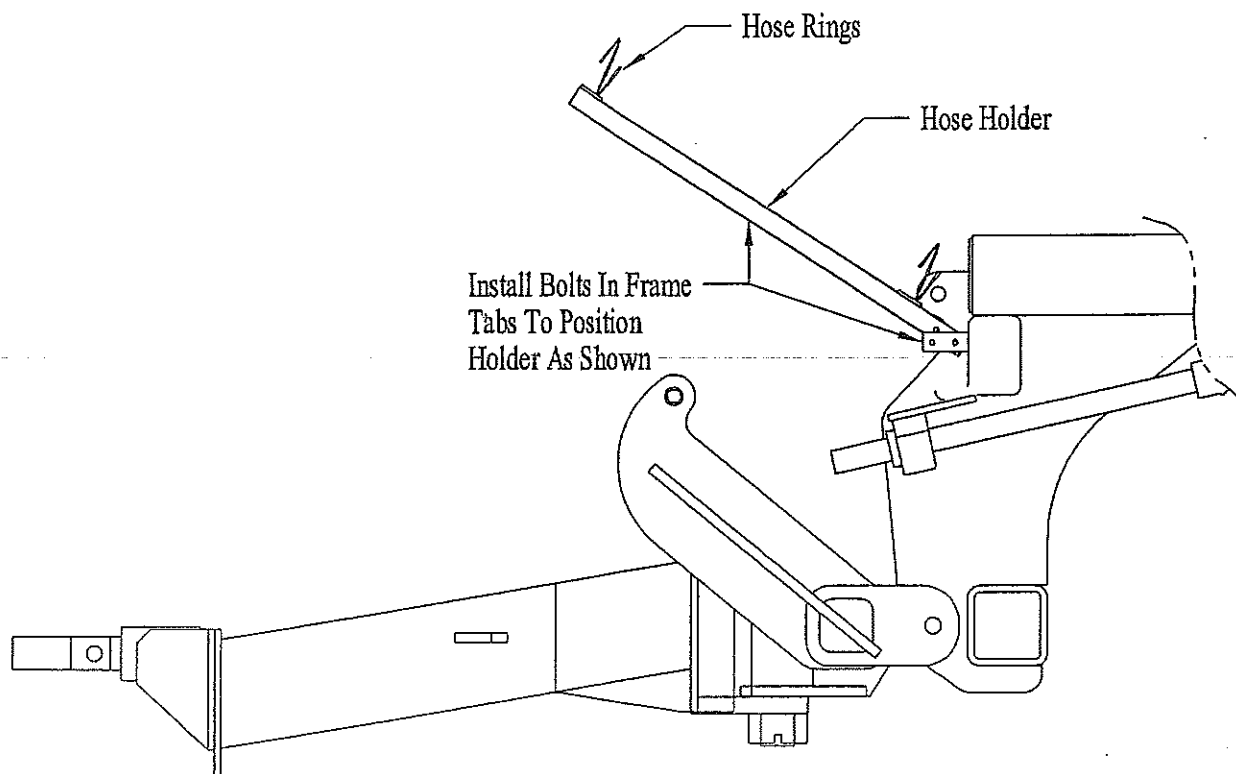

FIGURE 7
Step 11: Install the hose holder and hose rings to the front of the machine. See Figure 7 for proper positioning.